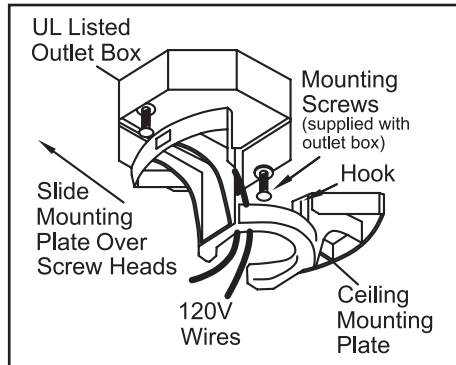

Figure 5
1. Pass the 120-volt supply wires through the center hole in the ceiling mounting plate as shown in Figure 5.
2. Install the ceiling mounting plate on the outlet box, by sliding the mounting plate over the two screws provided with the outlet box (Figure 5). When using close-to-ceiling mounting, it is important that the mounting plate be level. If necessary, use leveling washers (not included) between the mounting plate and the outlet box. Note that the flat side of the mounting plate is toward the outlet box (Figure 5).